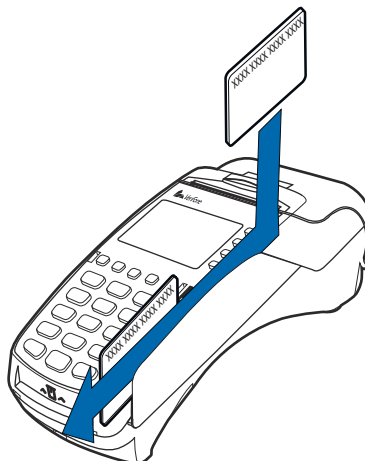

Figure 19 Using the Magnetic Card Reader
- 2 To ensure a proper read of the magnetic swipe card, the user should insert the magnetic card from the top of the unit, as shown in Figure 19.